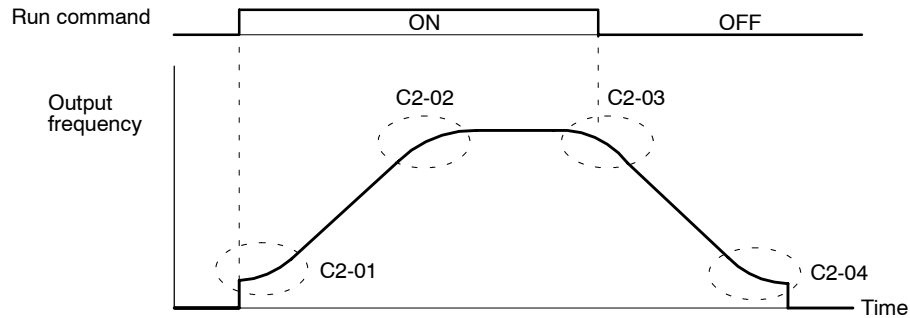

Fig 7.24 Setting S-curve Characteristics
- The relation between these constants is shown in *Figure 7.24*.